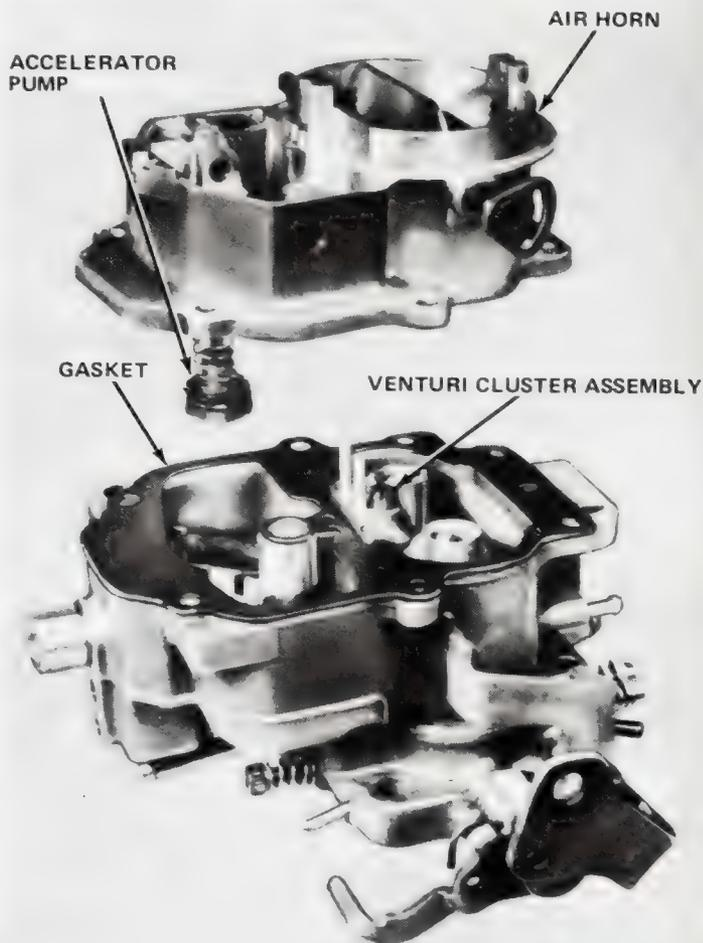

Fig. 1J-75 Removing Air Horn
(6) Disconnect clips and remove link from choke housing lever and choke lever.
(7) Remove screw and lever from choke shaft.
(8) Remove vacuum hose between carburetor main body and choke vacuum diaphragm. Remove choke diaphragm, linkage and bracket assembly. Place diaphragm aside to be cleaned separately.
(9) Remove fast idle cam retaining screw. Remove fast idle cam, linkage and clip.
(10) Remove choke housing cover, retainers and screws. Remove gasket and baffle.
(11) Remove choke housing from throttle body.
(12) Remove air horn retaining screws and lift air horn straight up away from main body. Remove solenoid, if equipped. Discard gasket (fig. 1J-75).
(13) Invert air horn and compress accelerator pump drive spring. Remove S-link from pump shaft. Remove pump assembly.
(14) Remove fuel inlet needle valve, seat and gasket from main body.
(15) Lift out float fulcrum pin retainer and baffle. Lift out floats and fulcrum pin (fig. 1J-76).
(16) Remove main metering jets (fig. 1J-77).
(17) Remove venturi cluster screws. Lift venturi cluster and gaskets away from main body. Discard gaskets. Do not remove idle orifice tubes or main vent tubes from cluster. Clean tubes in solvent and dry with compressed air.